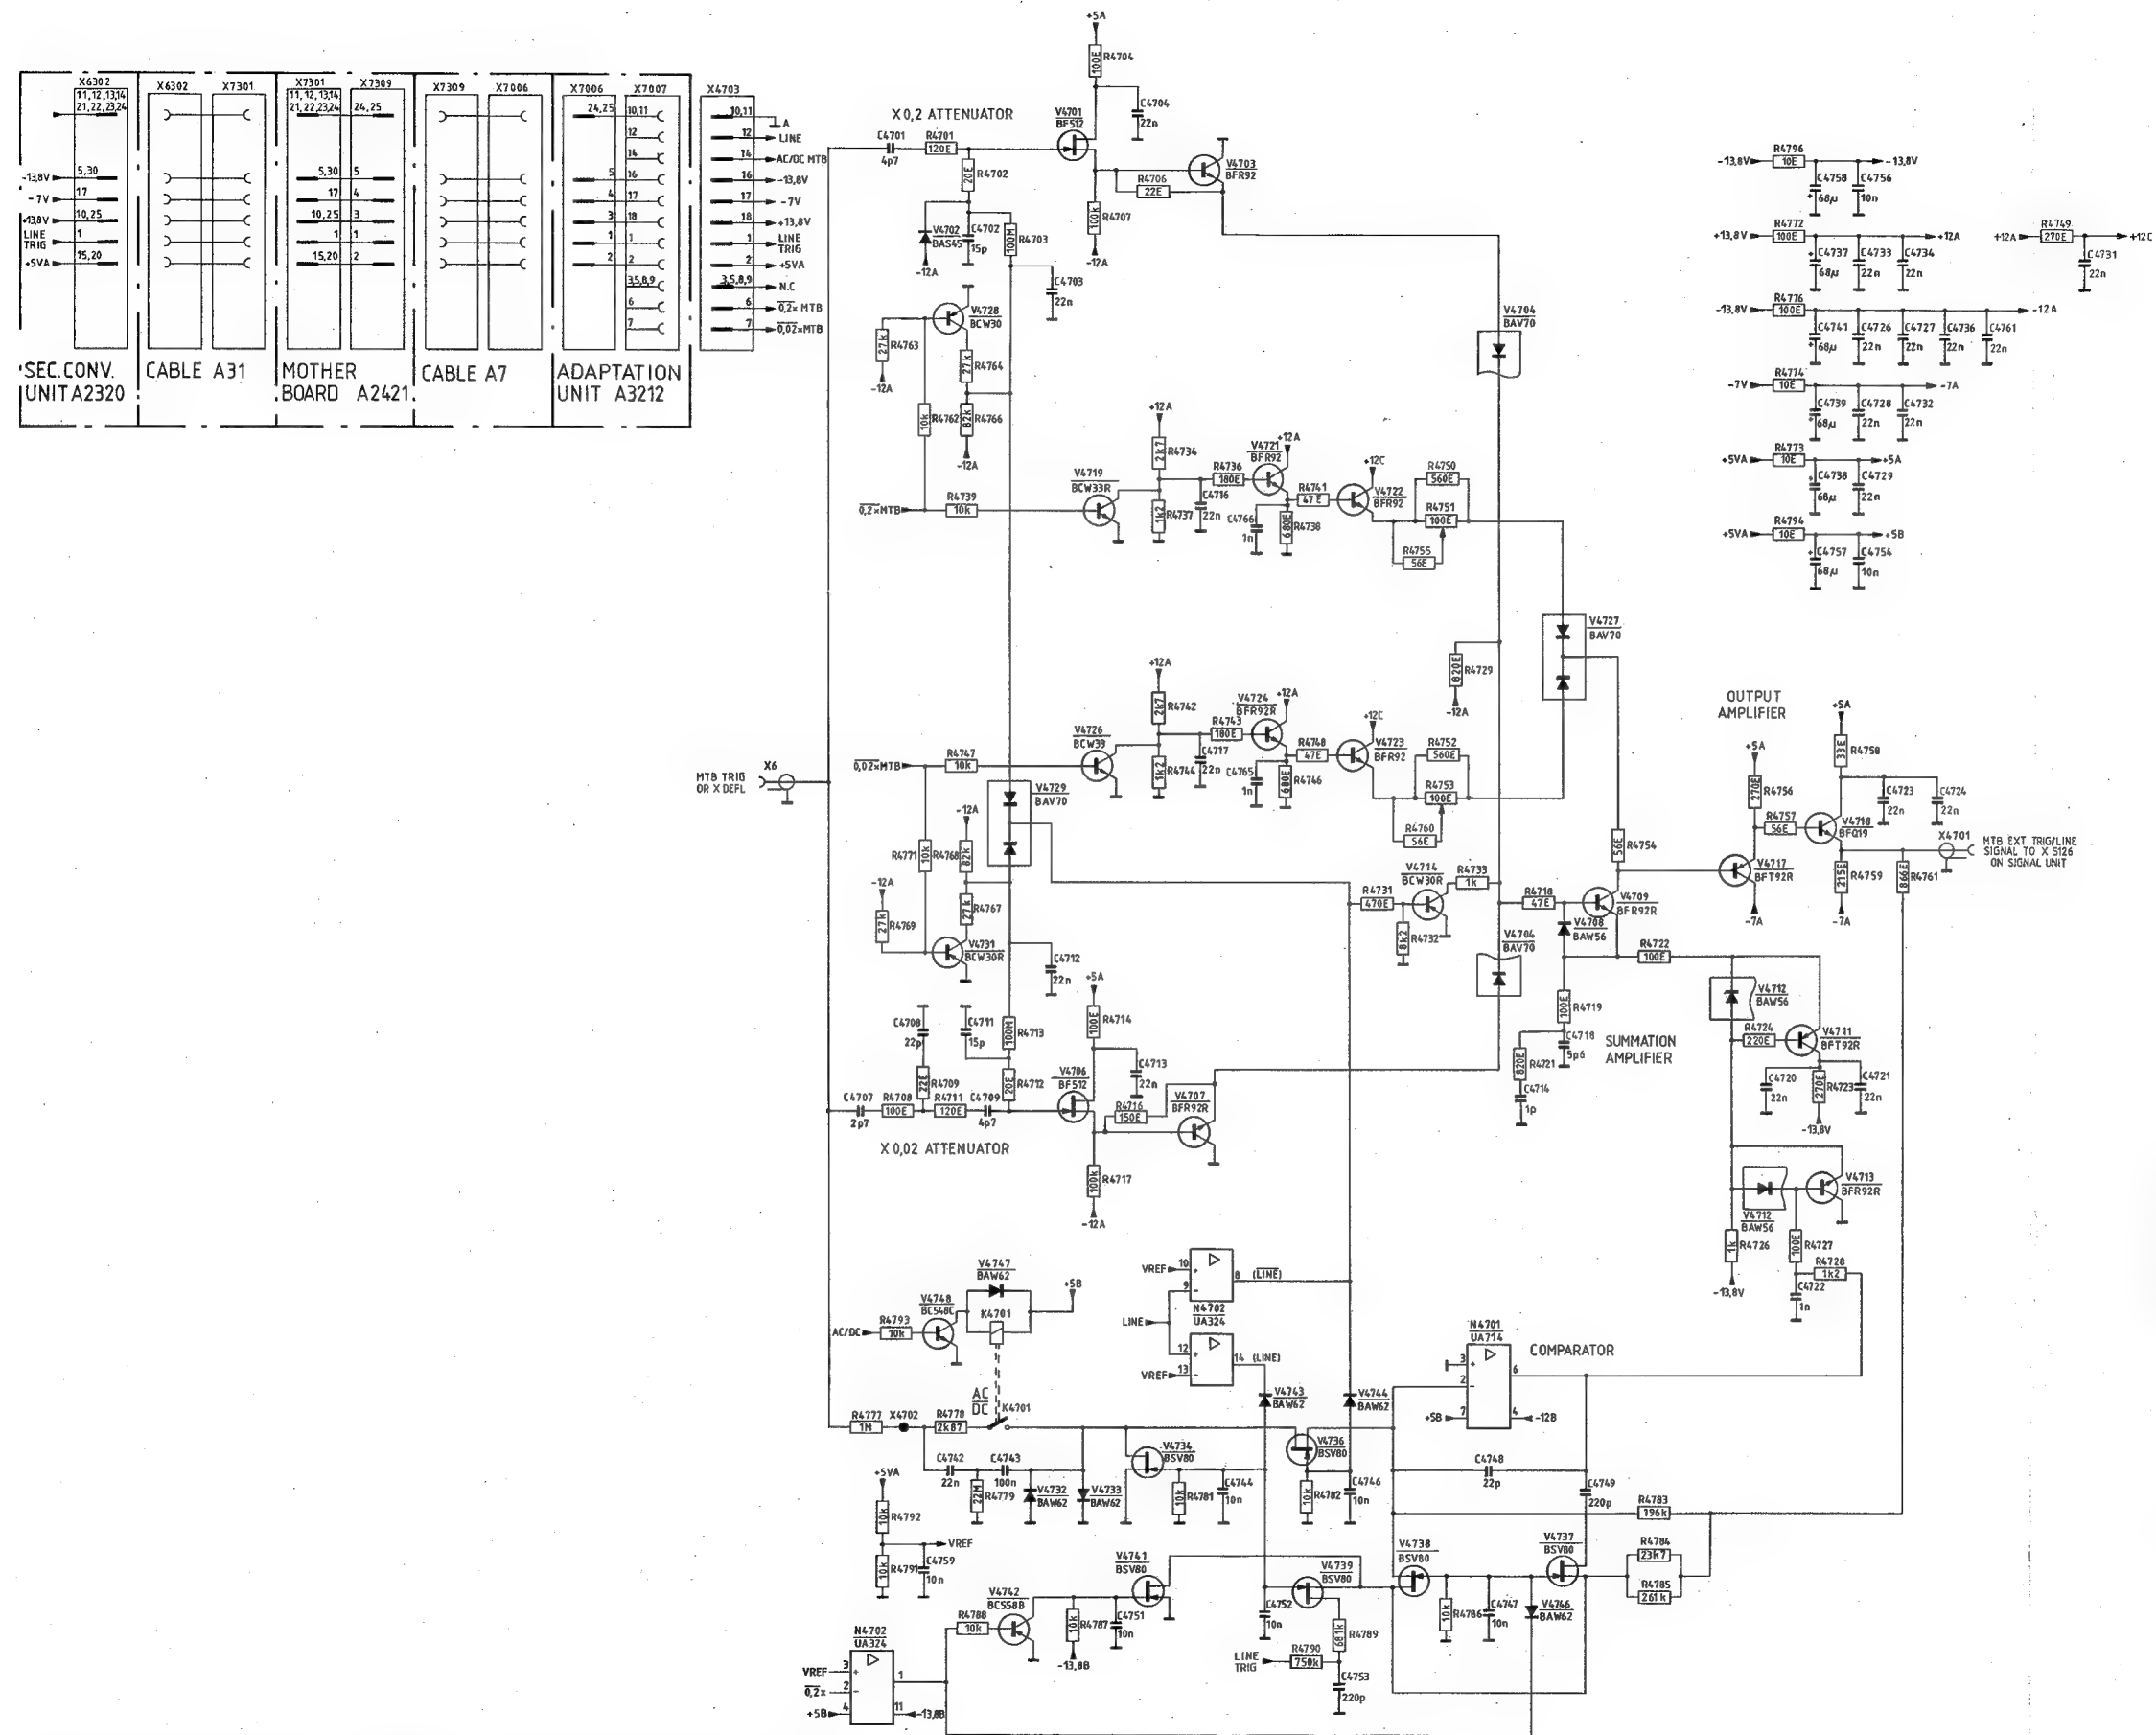

Fig.11.2. External MTB trigger input, circuit diagram.
11.1. CIRCUIT DESCRIPTION OF MTB EXTERNAL TRIGGER INPUT (See fig.11.2.)